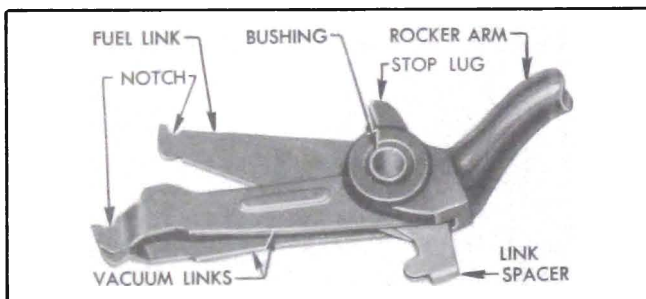

Figure 3-14—Rocker Arm Links, Spacer, and Bushing Assembled
1. Insert drilled end of fuel link (short) into link spacer, place one vacuum link (long) on each side of spacer, line up holes in these parts, then slide them between jaws of rocker arm and install the pin bushing. The notches in all links must be on same side as the stop lug on rocker arm, and link spacer must be on opposite side. See figure 3-14.